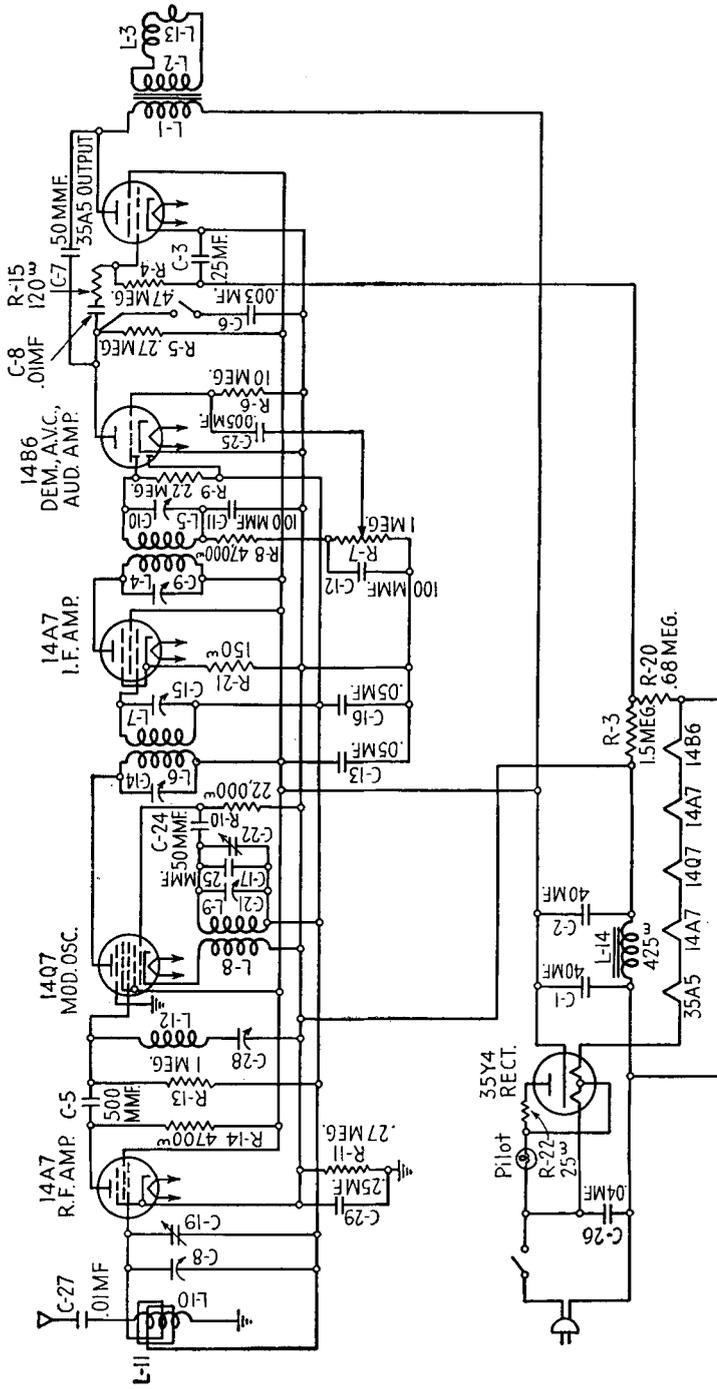

Fig. 16-10. Schematic diagram of the Stromberg-Carlson No. 1000 receiver.
intermediate frequency, which may be present in the converter signal grid circuit. Coil  $L-12$  and condenser  $C-28$  make up this type of wave trap in the receiver of Fig. 16-10.
while using only two tuned circuits: the RF grid and the oscillator. The Stromberg-Carlson No. 1000 receiver shown in Fig. 16-10 uses this type of circuit.
The coupling between the RF and the converter tubes consists of RF plate load *R-14*, coupling condenser *C-5*, and converter signal grid load *R-13*. The circuit composed of *L-12* and *C-28* in the converter signal grid is a wave trap tuned to the intermediate frequency of the receiver. Similar circuits in other receivers use different values for the components in the resistance-coupling circuit. The plate load varies from 5,000 to 10,000 ohms. The coupling condenser varies from 0.0001 to 0.0005 mfd. The grid-load resistor is often smaller than the one shown in the diagram, 25,000 to 100,000 ohms being more usual. Another circuit difference is that some receivers bring the grid-load resistor to ground or common negative rather than to the AVC bus, as shown in Fig. 16-10.
4. The receiver of Fig. 16-10 gives poor reception in the customer's home although it operates normally on the service bench. A long outdoor antenna was suggested and installed. The reception was greatly improved but the receiver is now troubled with code interference all over the tuning range. What is likely to be wrong and how should it be checked?